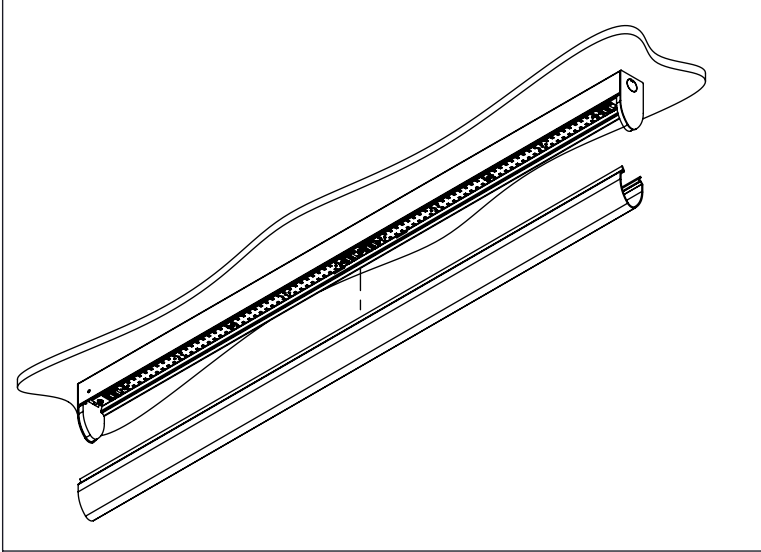
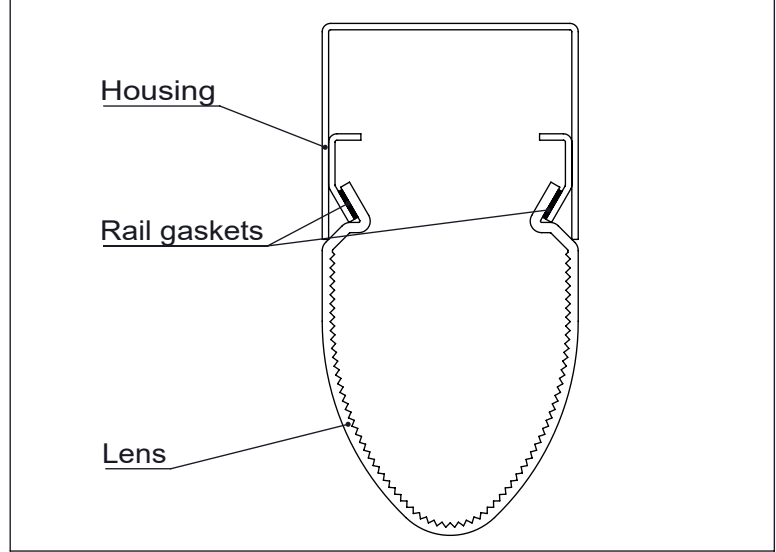

Figure 5
Figure 6
5. Compress lens walls and reinsert lens (Fig. 5). Ensure that the lens legs are seated properly against the rail gaskets (Fig. 6), and that the end gaskets are compressed uniformly.